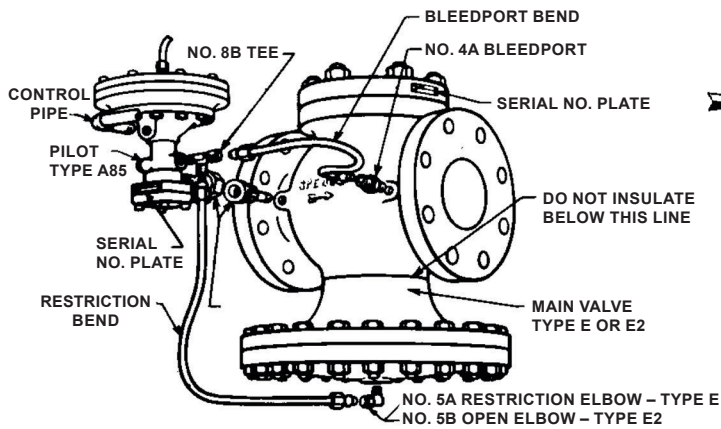

Figure 5. Tubing Bends Connection
5. Connect tubing bends as illustrated in Figure 5.